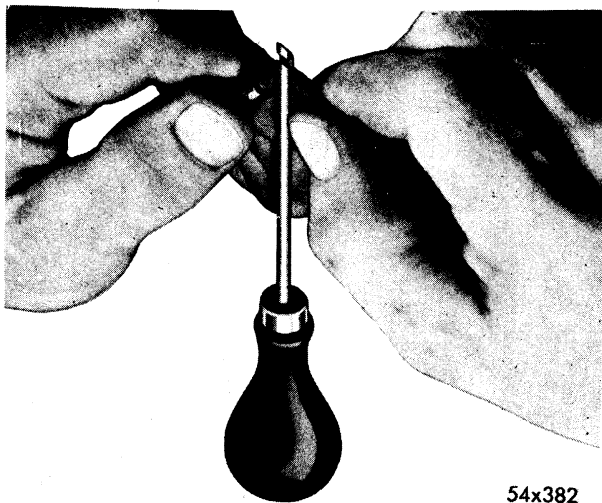

Fig. 12—Installing Plug in Needle
- (2) Select a repair plug according to the size of the hole. The repair plug should have a diameter about twice the size of the hole because the soft rubber will stretch when inserted with the needle. Roll the small end of the repair plug into the "eye" of the needle, $\frac{3}{8}$ inch from the end of the plug (Fig. 12).